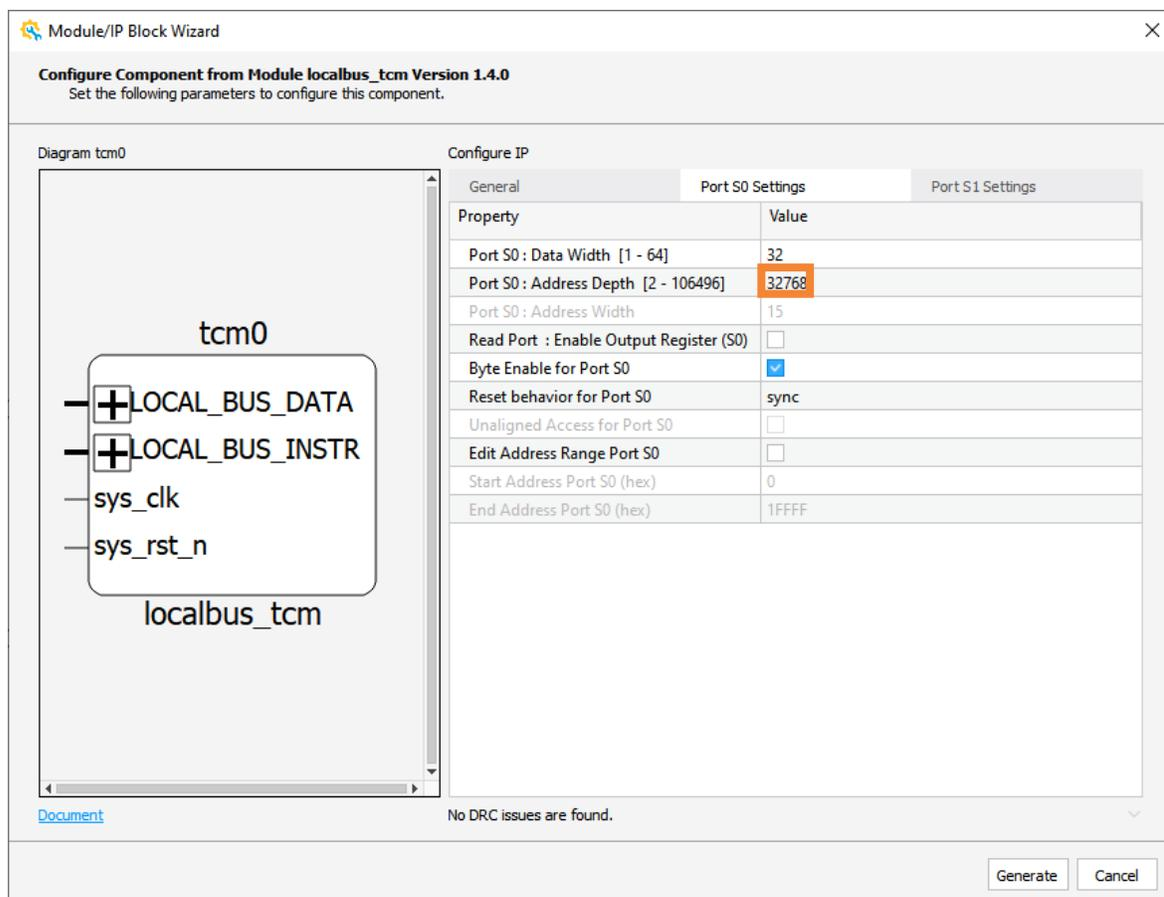
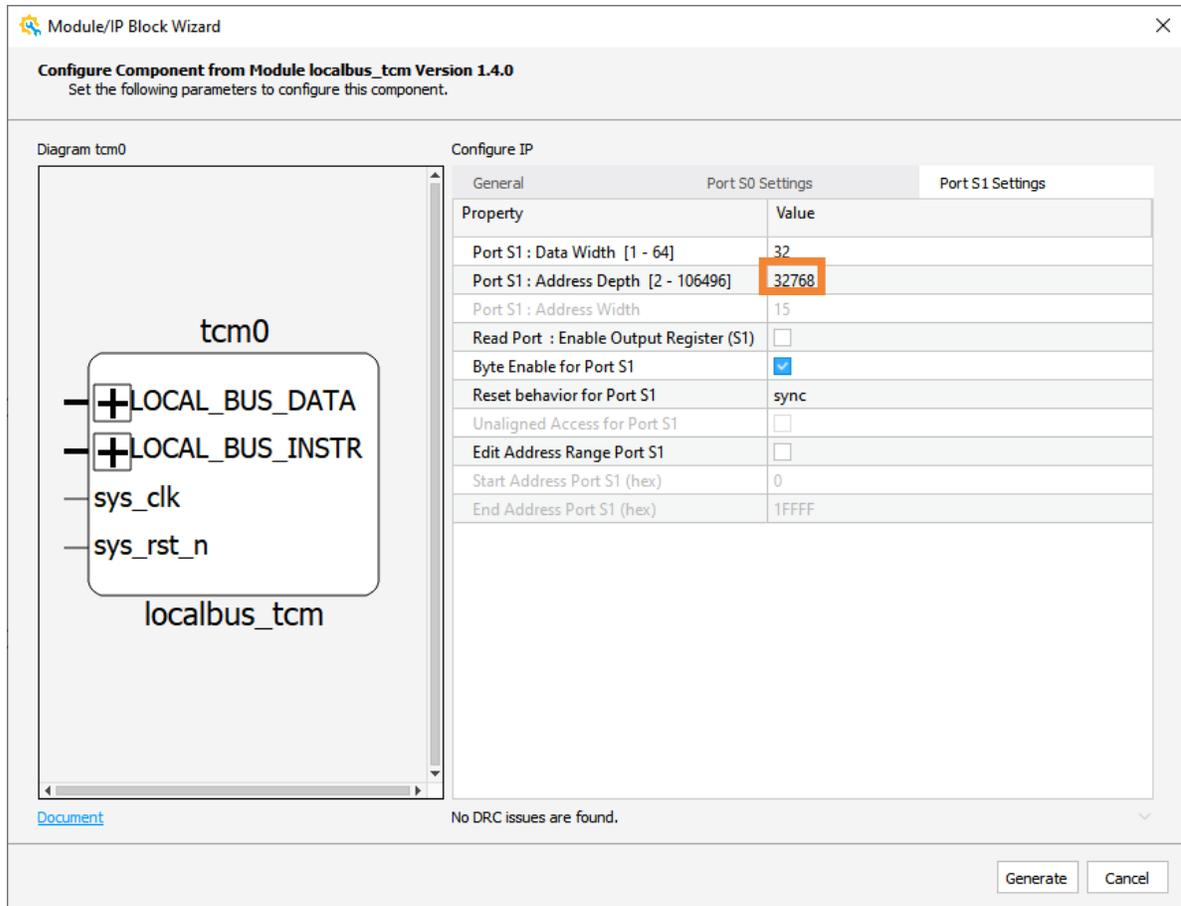

Figure 6.1. `tcm0_inst` Port S0 Address Depth Settings
Figure 6.2. tcm0\_inst Port S1 Address Depth Settings
2. Propel Builder automatically opens. In Propel Builder, double-click `tcm0_inst` in the **Schematic** view, set a larger value for Address Depth both in Port S0 (Figure 6.1) Settings and Port S1 Settings (Figure 6.2). Click **Generate**.
2. Propel Builder automatically opens. In Propel Builder, double-click `tcm0_inst` in the **Schematic** view and set a larger value for Address Depth both in Port S0 Settings (Figure 6.1) and Port S1 Settings (Figure 6.2). Click **Generate**.